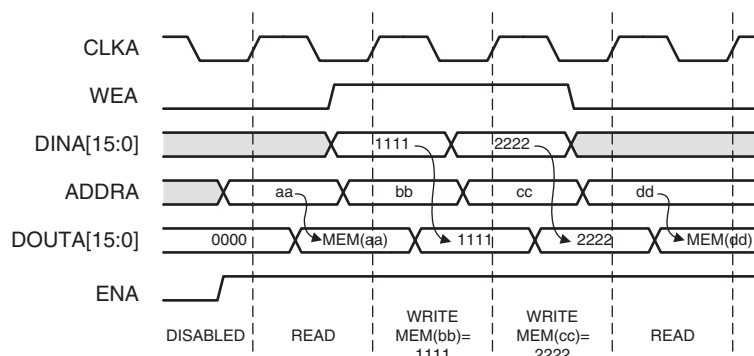

Figure 9: Write First Mode Example
- **Write First Mode:** In WRITE_FIRST mode, the input data is simultaneously written into memory and driven on the data output, as shown in Figure 9. This transparent mode offers the flexibility of using the data output bus during a write operation on the same port.